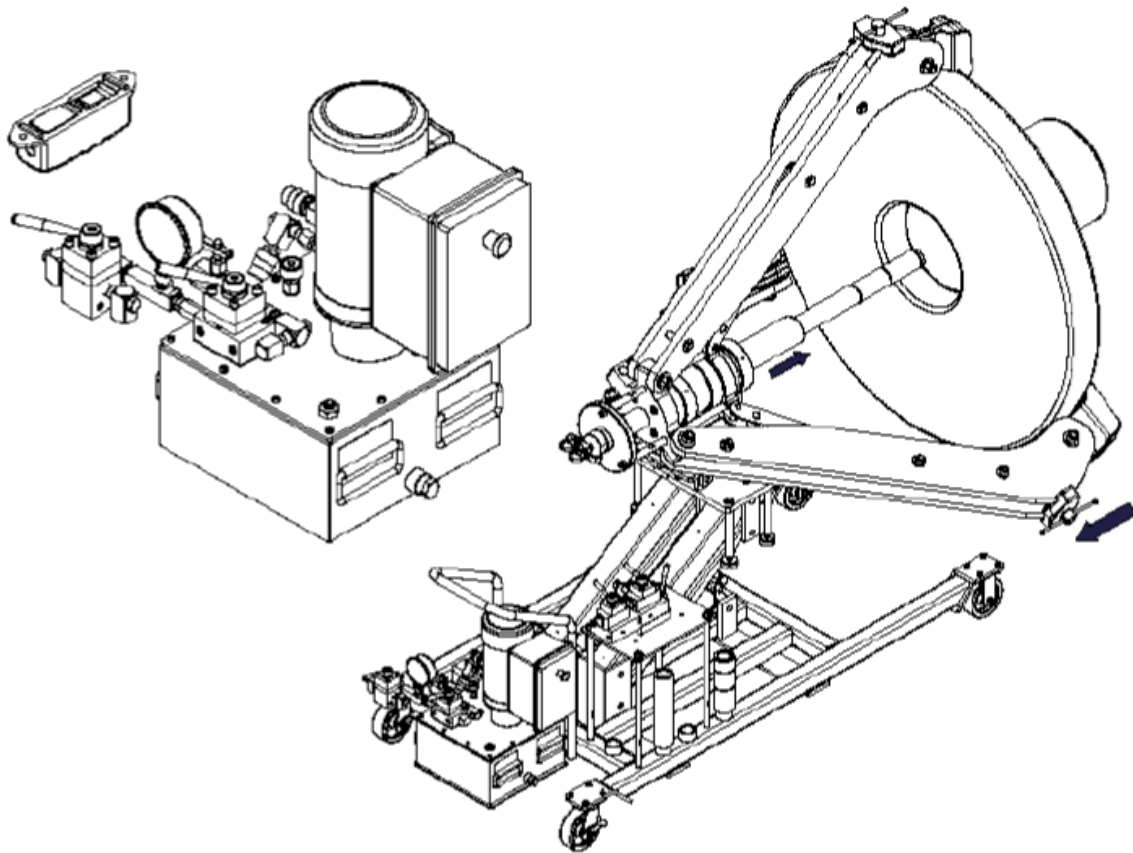

Figure 7 – Operating the Puller
- 5.4.1 Stand behind and to one side of the puller. Continue with pulling job by pressing the button on the remote switch (see Figure 7).